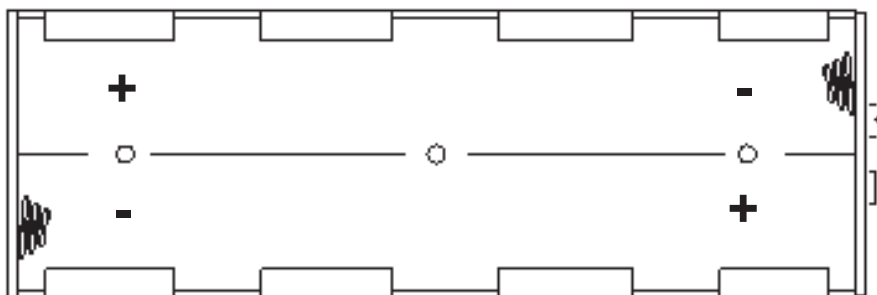

Figure No. 4
- Step 4 Install 6 "C" size batteries in the holder, making certain they are positioned following the polarity markings located in the battery holder. Refer to Figure No. 4.